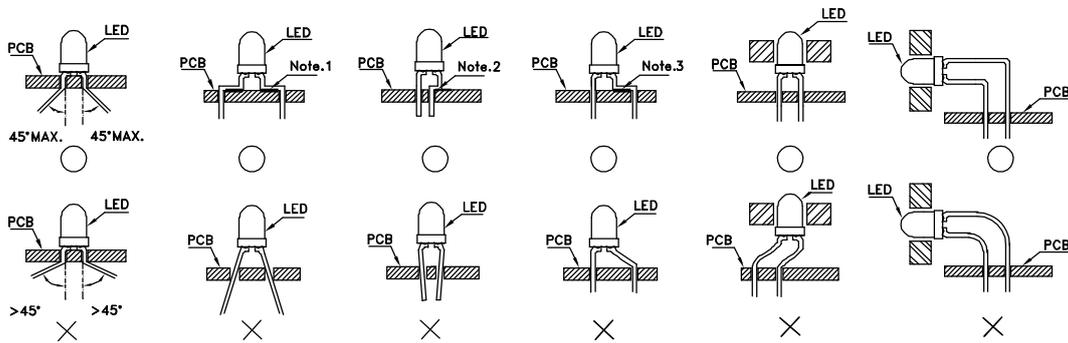

Fig. 1
2. The lead pitch of the LED must match the pitch of the mounting holes on the PCB during component placement. Lead-forming may be required to insure the lead pitch matches the hole pitch. Refer to the figure below for proper lead forming procedures. (Fig. 1)